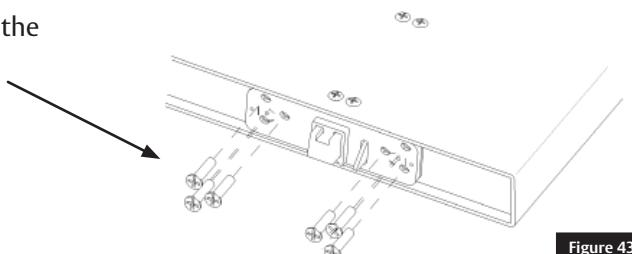

Figure 43
- Install six (6) 1/4-20 flat head screws in the top edge of the door. (Figure 43)